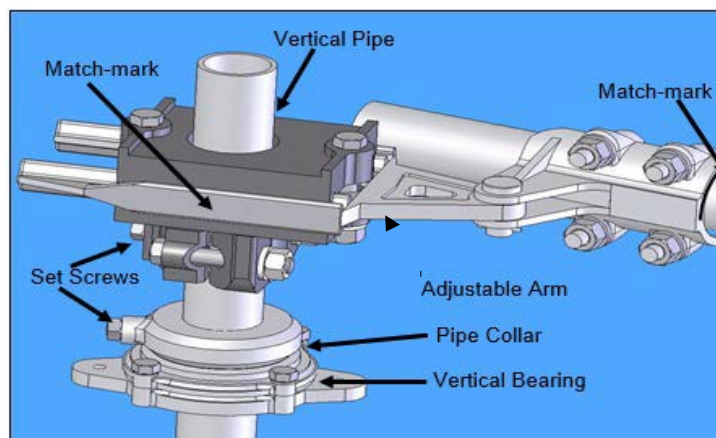

Figure 15: Typical Operating Arrangement
- 5.6 Refer to the Operating Mechanism drawing and install all mounting brackets, bearings, bushings, pipe clevises, switch operating device, adjustable arm, reach rod, and other necessary components. Refer to **Figure 15**. Do not connect the interphase pipe at this time.
- 6.1. The operating mechanism is intended to fully open and fully close the disconnect switch by rotating the vertical operating pipe $180^{\circ} \pm$ using an operator (manual or electrical). The interphase pipe controls the individual operation of each switch pole, using a push/pull control. The reach rod translates the motion of the vertical operating pipe to the interphase linkage. The adjustable arm (**Figure 15**) controls the total amount of switch operation available.